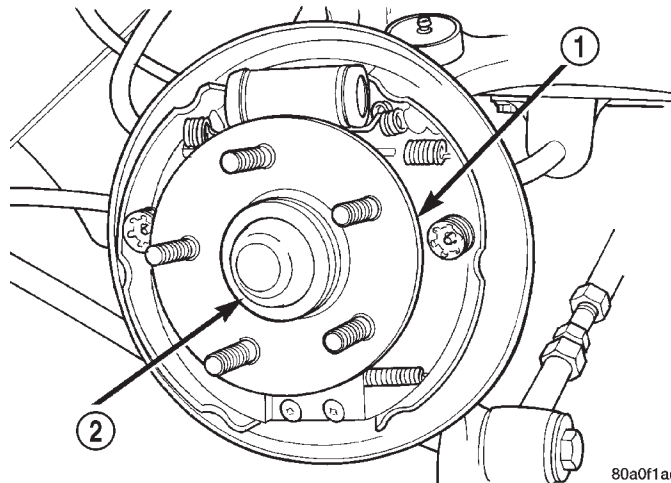

Fig. 143 Rear Hub/Bearing Dust Cap
(22) Remove the dust cap (Fig. 143) from the rear hub/bearing assembly.
(7) Install hub/bearing assembly dust cap, (Fig. 143) using a soft faced hammer.